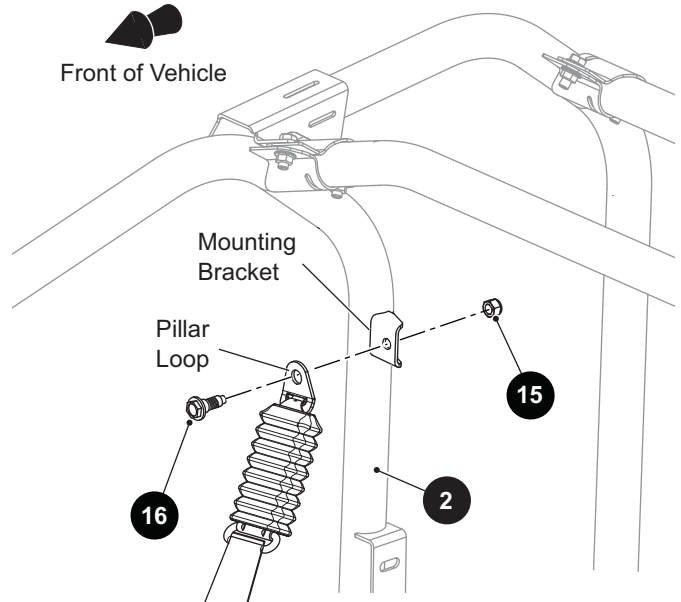

Fig. 8 Seat Belt
1. Attach the pillar loop of the seatbelt to the mounting bracket at the top of the ROPS tube (2) with bolt (16) from the front to back (Ref. Fig. 8). Secure with lock nut (15). Guide the belt down to prevent twisting the belt. Make sure the flat side of the seatbelt retractor is flush against the bracket toward the front of the vehicle.